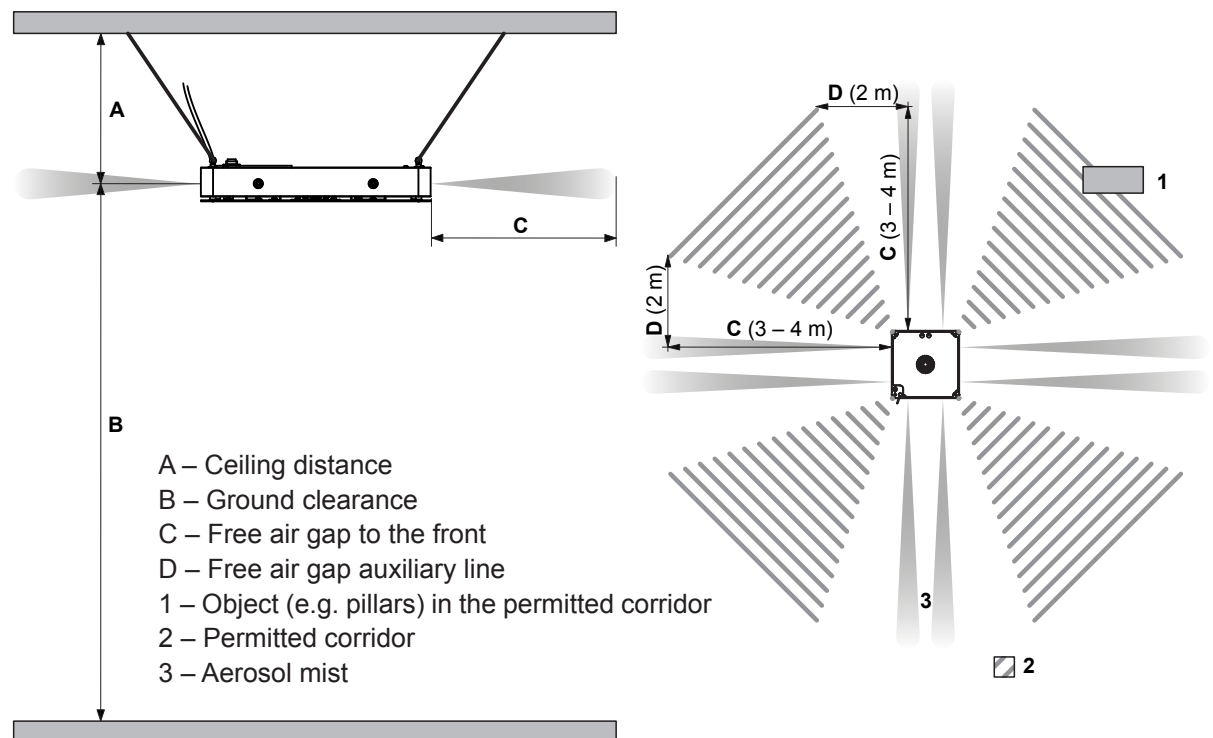

Fig. 18: Positioning the Condair Vita Stream nebulizer
- The air space in front should be free at a 360° angle and a distance of 4 m. (For further details, see Fig. 18)